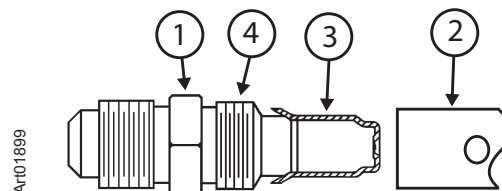

Figure 4. Orifice Assembly
6. Remove the flare nut from the orifice assembly [1] (see Figure 4).